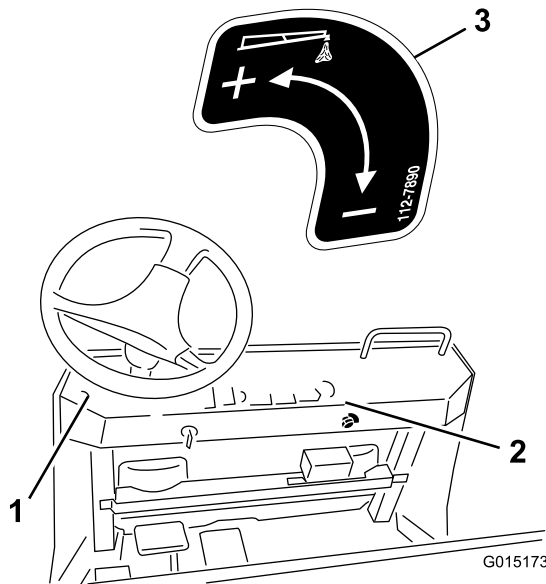

Figure 21
10. Install the decal as shown in Figure 21.